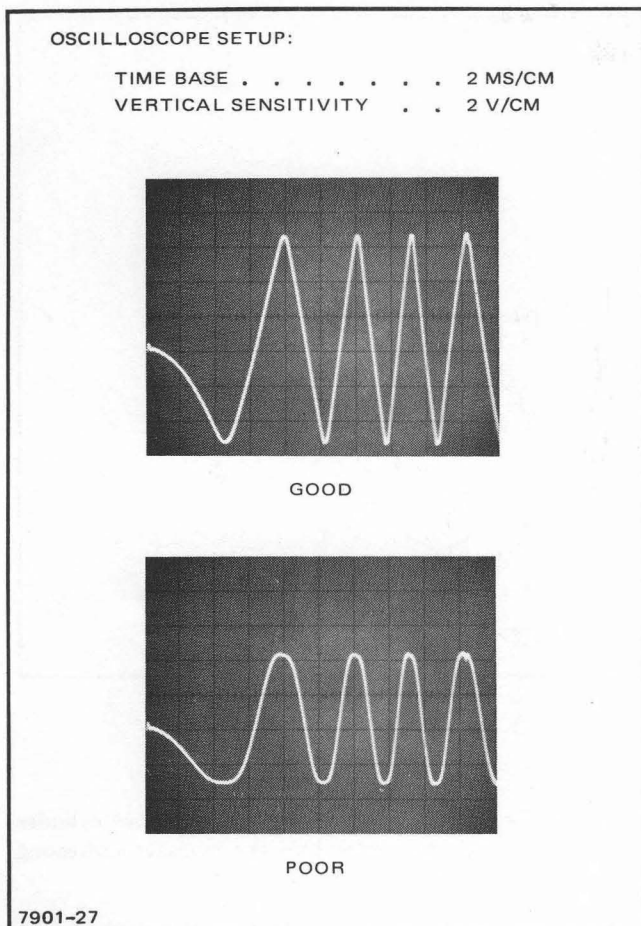

Figure 5-4. Encoder Parallelism Adjustment Waveforms
- c. Connect an oscilloscope to the in-phase (A) channel amplifier output at A9TP4 on encoder assembly A9.
- e. Manually move the carriage and observe oscilloscope display. The waveform should be almost triangular with slight rounding of the peaks as shown in the "good" illustration in figure 5-4. If a "poor" display is obtained, proceed with steps f through h.
- g. Move the carriage and adjust the encoder parallelism adjusting screw until optimum waveform is obtained. Waveform should compare favorably with the "good" illustration in figure 5-4.